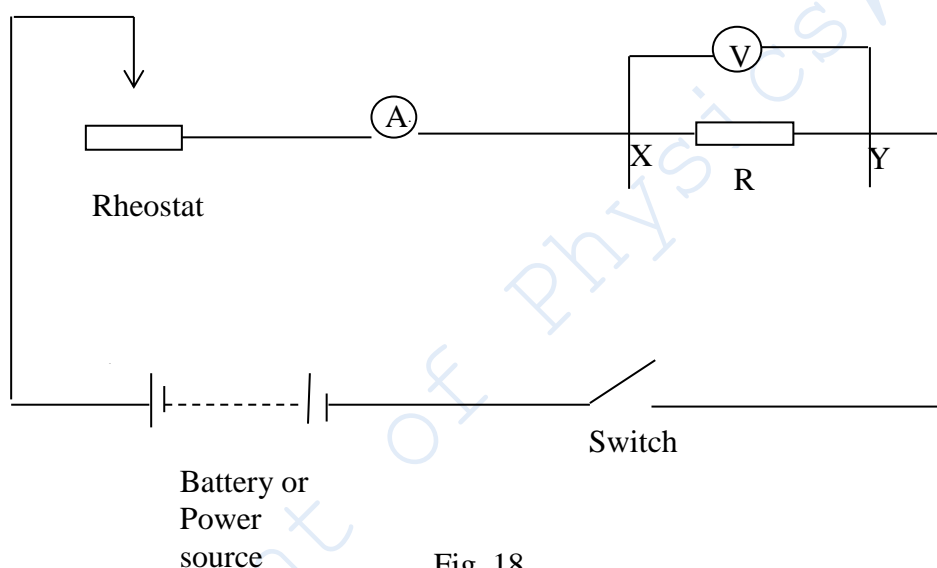

Fig. 18
1. Connect the circuit as shown in Fig. 18. Use the rheostat to adjust the current flowing through the unknown resistance R_1 .
1. Repeat method A above but with the resistor R in Fig. 18 replaced with resistors R_1 , R_2 and R_3 arranged in series. Plot a graph of V versus I and from your graph, find the sum (R_T) for the three resistors in series.
2. Repeat method A above but with the resistor R in Fig. 18 replaced with resistors R_1 , R_2 and R_3 arranged in parallel. Plot a graph of V versus I and from your graph, find the sum (R_T) for the three resistors in parallel.